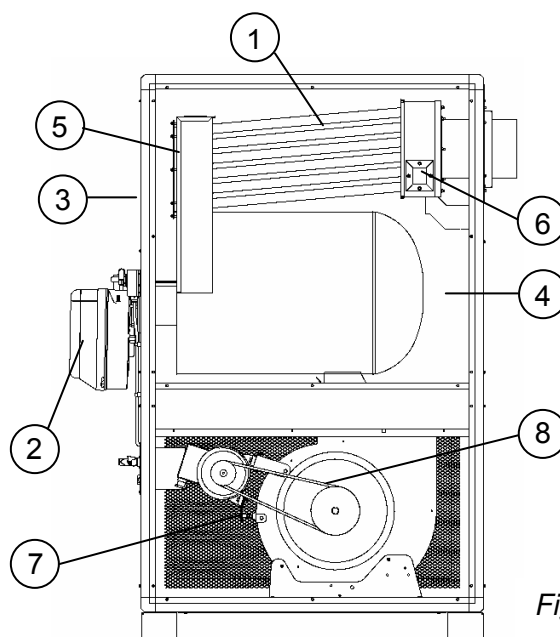
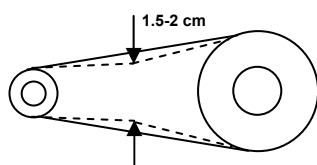

Fig. 2
Fig.3
This activity must be performed minimum once a year or if needed, after the heating season is finished. Remove soot from the incineration chamber and the heat exchanger. The reason for production of the excessive quantity of soot may be the defective exhaust chimney, bad setting of the burner or bad fuel quality. The excessive quantity of soot may be recognised by the fact that the heater will switch off itself automatically. The access to the incineration chamber (Fig.2) and the exchanger (1) is possible after unscrewing the burner (2), removing the housing panels (3, 4,) and the panels closing the incineration chamber (5, 6).
Minimum once a year, or if needed, check the tension of the V-belt (8) (Fig.2). The belt must be pressed with one hand in the middle of its length (Fig.3), and its bending should amount to 1.5-2 cm. If the bending is significantly different from the one stated above, adjust it by means of a screw (7).